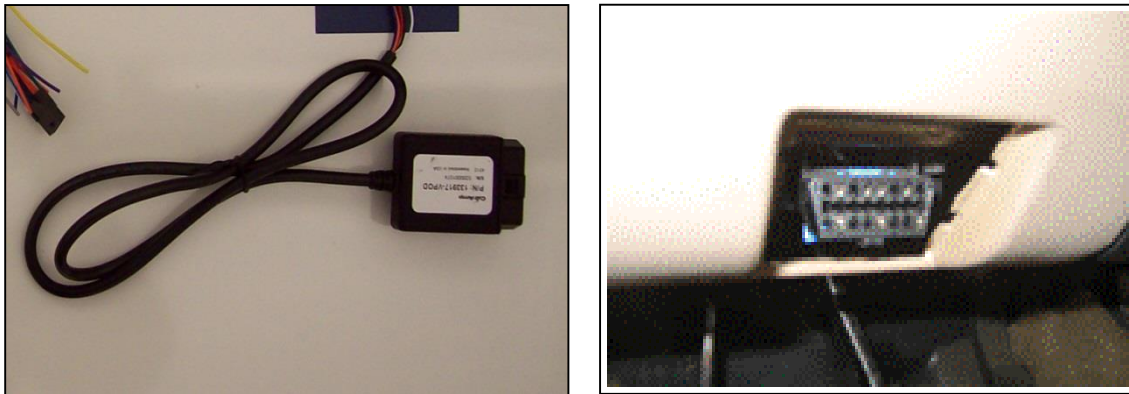

Figure 46: vPOD Adapter and Vehicle OBD-II Port
1. Plug the vPOD Adapter directly into the vehicle's OBD-II port (Figure 46).